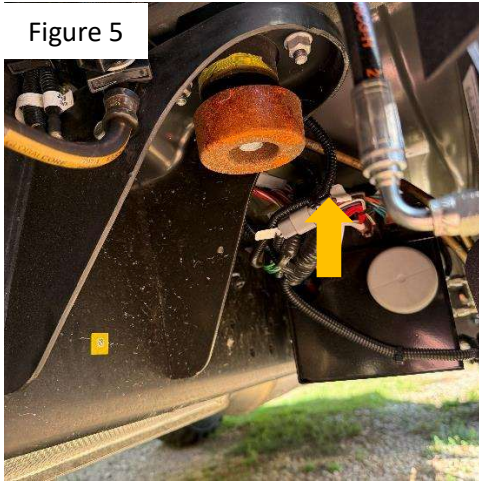

Figure 5
6. Cross over the top of the liquid springs control module and secure with zip ties (Figure 5)